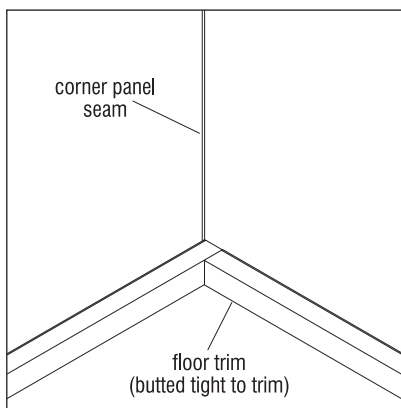

Figure 6 - Completed Floor Trim
4. Install the second cut trim to the base trim retainer clip installed on floor channel (see page 25), butting it tight to the inside surface of the previously installed trim (Figure 6).